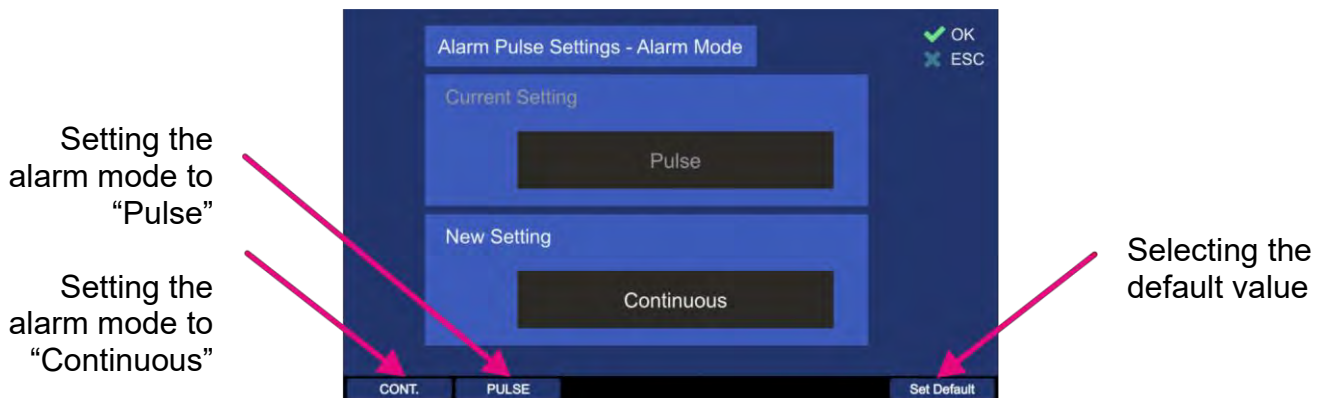

Fig. 109 Alarm mode dialog
- By pressing the hotkey "Edit Value", the dialog for changing the alarm mode of the alarm output will be opened. The handling of this dialog is shown in Fig. 109.